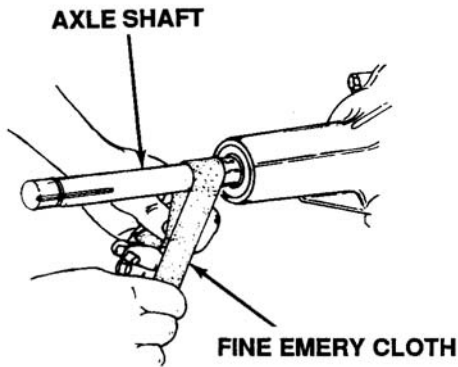

Figure 5-103. Cleaning Axle Shaft
- Before pulling housing halves apart, axle shaft ends must be free of rust and nicks for ease of disassembly. With a piece of fine emery cloth clean shafts and inspect for good clean surfaces. See Figure 5-103.